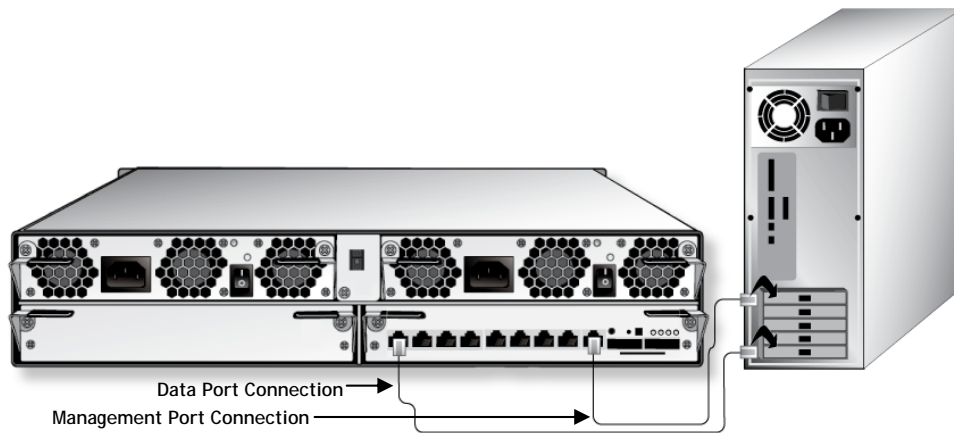
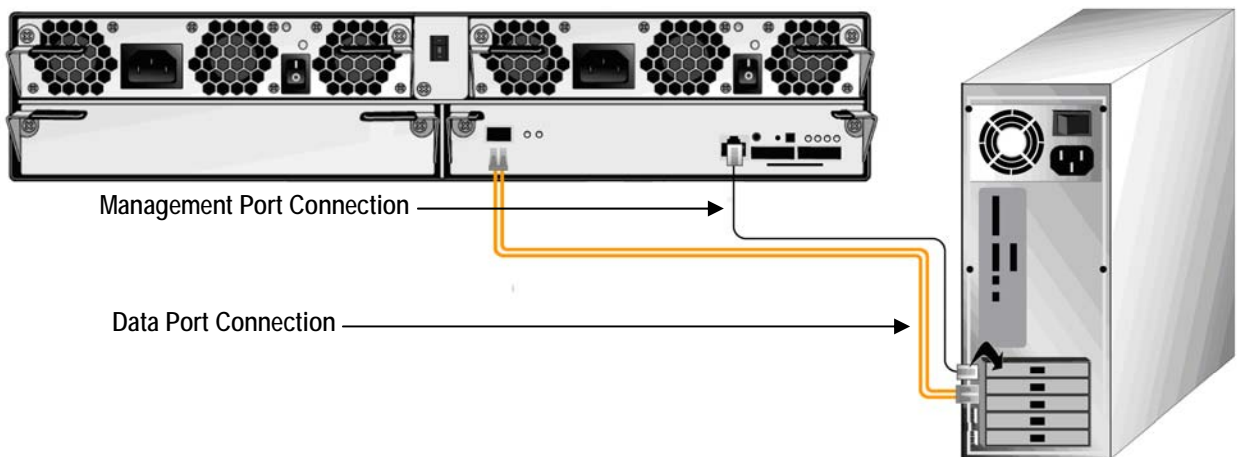

Figure 3-1. Connecting Data and Management Ports (iS512 Single Controller)
Figure 3-2. Connecting Data and Management Ports (iS512-10G Single Controller)
1. Attach one end of an Ethernet cable to the data port labeled iSCSI 0 on the iS512 primary array back panel (see Figure 2-5 on page 9 and Figure 3-1). Connect the other end of the cable to your SAN or host system.
1. Connect one end of a single mode or multimode XFP optical cable to the iS512-10G storage system optical host network connection port (see Figure 2-5 on page 9 and Figure 3-2).
2. Connect the other end of the cable into the iS512 primary array MGMT port (see Figure 2-5 on page 9, Figure 3-1, Figure 3-2, Figure 3-3 and Error! Reference source not found.).